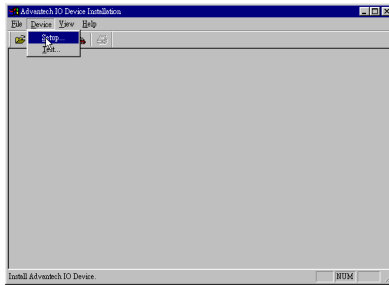
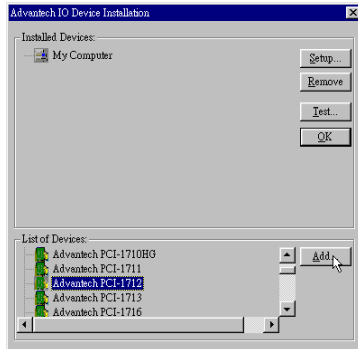

Figure 2-4: The Advantech Device Installation utility program
Figure 2-5: The I/O Device Installation dialog box
Step 2: On the *Device Installation* program window, select the *Device* menu item on the menu bar, and click the *Setup* command (Fig. 2-4) to bring up the *I/O Device Installation* dialog box (Fig. 2-5). You can then view the device(s) already installed on your system (if any) on the *Installed Devices* list box.